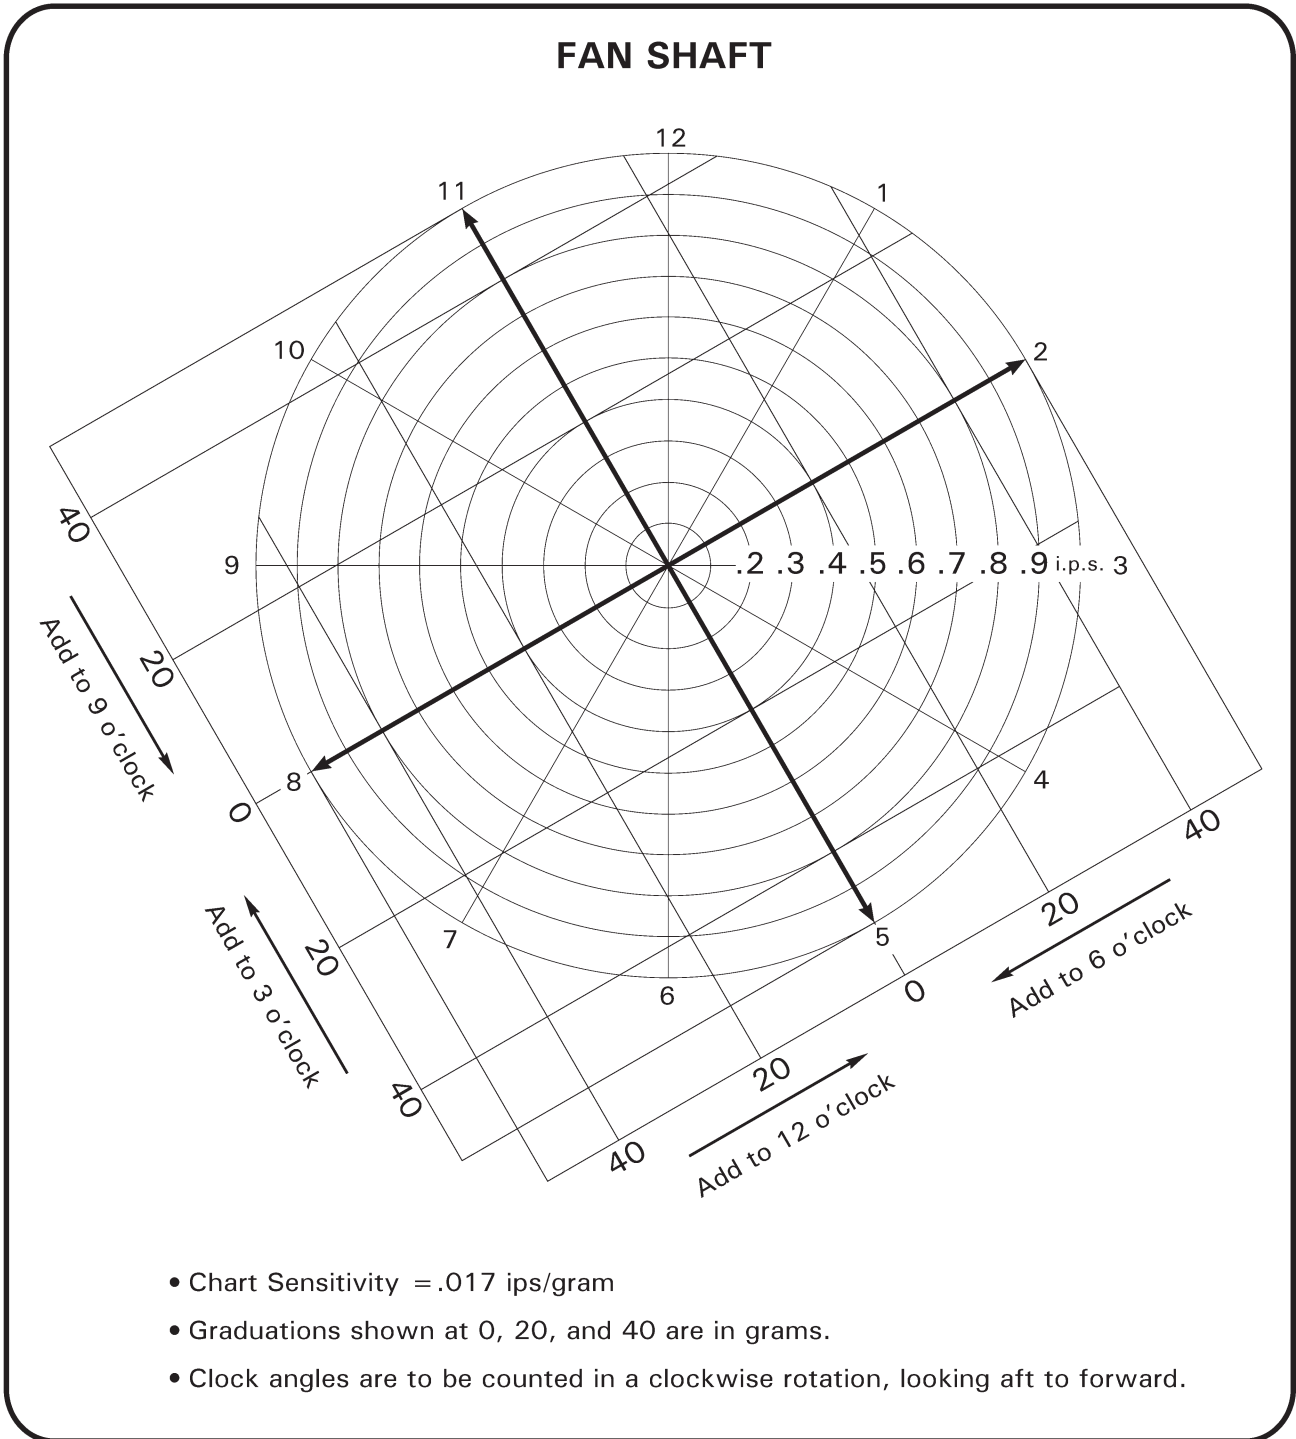

FIGURE 18-13 FAN SHAFT BALANCING CHART
- a. Fan Shaft: Refer to Figure 18-13. Adjust balance by selecting one or more NAS1149D0463J, NAS1149F0432P, NAS1149F0463P, A214-3, or A141-14 washers as required and install under one nut of intermediate flex plate (tail rotor driveline) fastener.